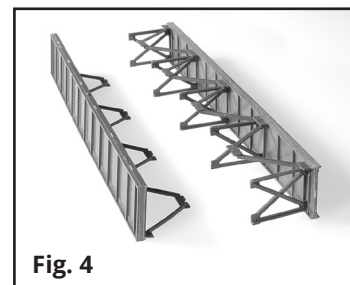

Fig. 4
a. Place one of the girders on edge with the lateral bracing down. Place the other girder on edge with the lateral bracing up and slide the two assemblies together. See fig. 4. Use rubber bands to hold the span assembly together while positioning the bracing as described in steps 2 and 4.